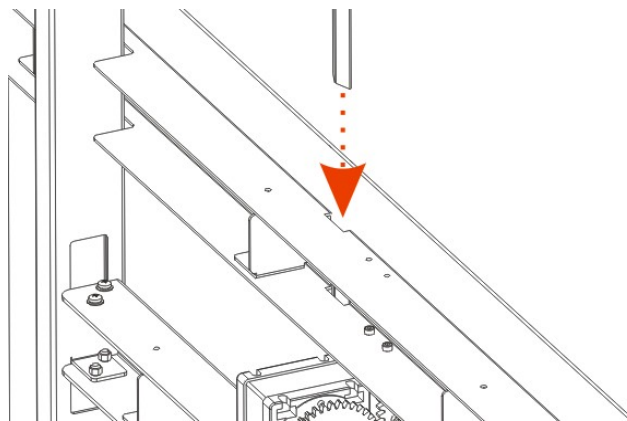
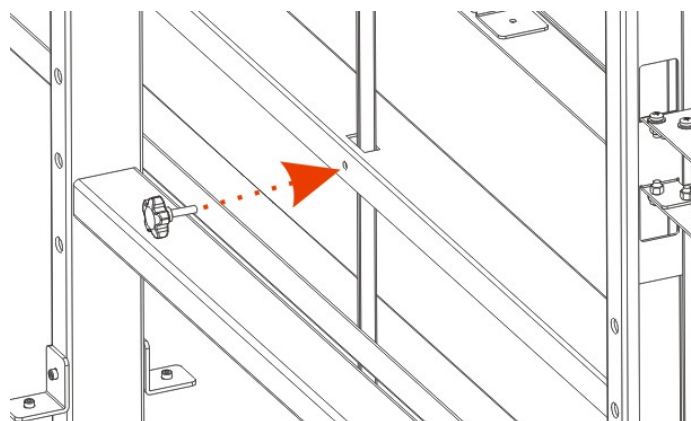

Fig. 4-4
Fig. 4-5
3. Insert the dipstick (5) from the top of the calibration frame until it reaches the falt floor surface (See Fig. 4-4), and then fix it using the set screw of dipstick (C) (See Fig. 4-5).